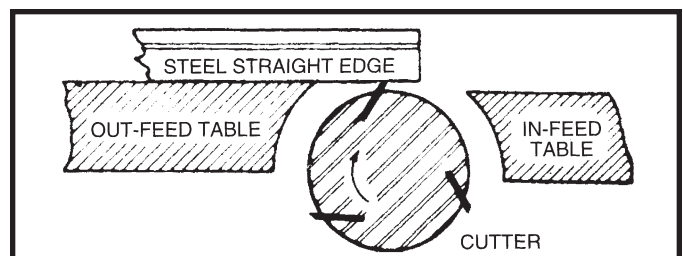

Fig. 26
3. Place a steel straight edge on the out feed table extending out over the cutterhead, as shown in Fig. 26.